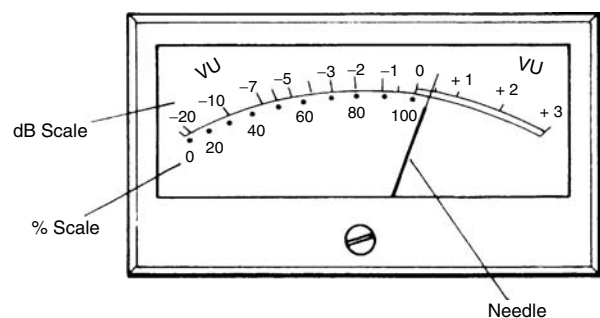

FIGURE 3.10 The standard VU meter incorporates both a percent and decibel scale.
Another place the signal is sent after program amplification is the volume unit indicator, or VU meter (see Figure 3.10). This is a metering device that enables the operator to determine what level of sound is going out the line.
6. In Figure 3.10, a reading of 50 percent on the scale is roughly equivalent to which reading on the dB scale?
7. Which expression describes a 20 percent reading on the VU meter in Figure 3.10?
8. Which expression describes a +3 dB reading on the VU meter in Figure 3.10?